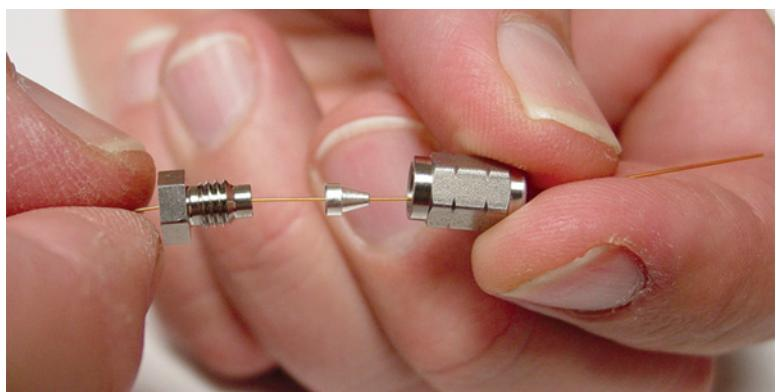

Figure 2 Thread the internal nut and ferrule
- 2 Pass the tubing end through the internal nut and the SilTite ferrule leaving approximately 1 cm of tubing protruding beyond the ferrule. Thread the swaging nut onto the internal nut with the tubing protruding (Figure 2).